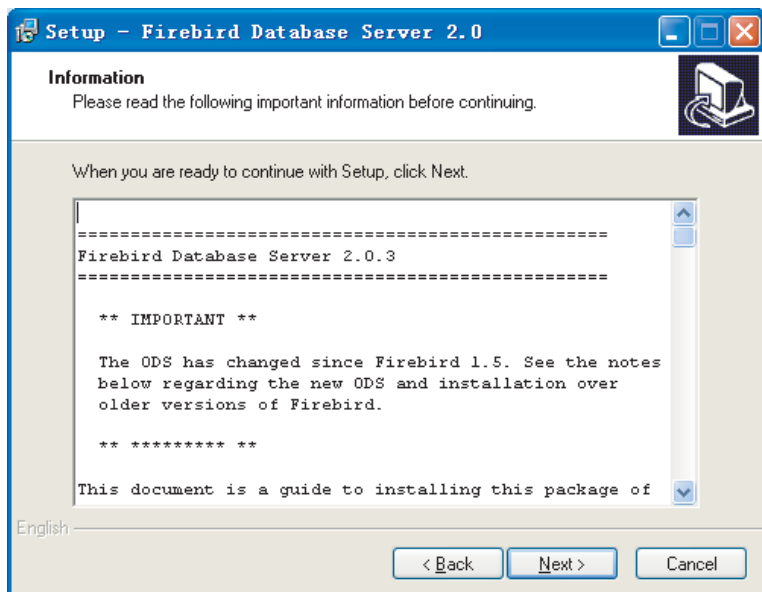

Fig.2-4
4) Installation window as Fig. 2-4, click "Next" to continue: